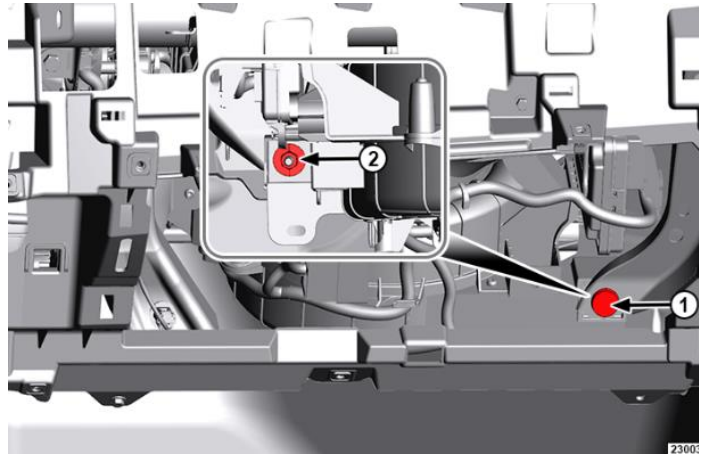

Figure 12 – HVAC to I/P Stud and Nut
- 27. Working in the glove box opening, remove the nut (2) from the stud (1) (Figure 12).
15. Working in the glove box opening, install the nut on the stud and tighten to 8 N·m (71 in. lbs.) (Figure 12).